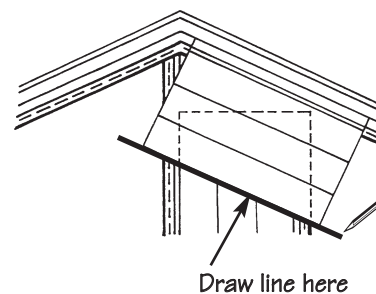

Figure 60.
- Make a pattern for end cuts along the gable using two pieces of scrap siding (Fig. 60). Lock one piece into the vertical strip at the center of the wall. Hold the edge of the other piece against and in line with the roof line. Mark the slope on the vertical piece and cut along that line. Use it as a pattern to mark and cut the ends of all other panels required for this side of the gable. Make another pattern for the other side of the gable.